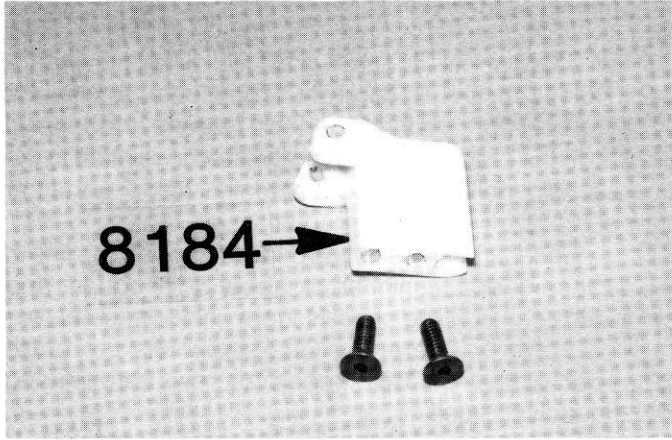

Fig. 21
□ **Figs. 21 & 22**— From Bag #4 remove the #8184 shock/antenna mount and carefully trim off the small round shock bushing and save it for the shock installation (Figs. 64 & 65). Install the #8184 shock/antenna mount with the two allen flat head screws.